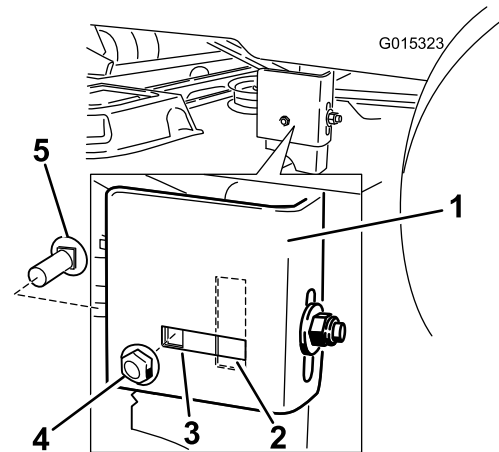

Figure 48
7. Move to the left side of the machine. Remove the side carriage bolt and locking nut from the fixed position and install it into the rear, slotted position and leave it slightly loose (Figure 48).